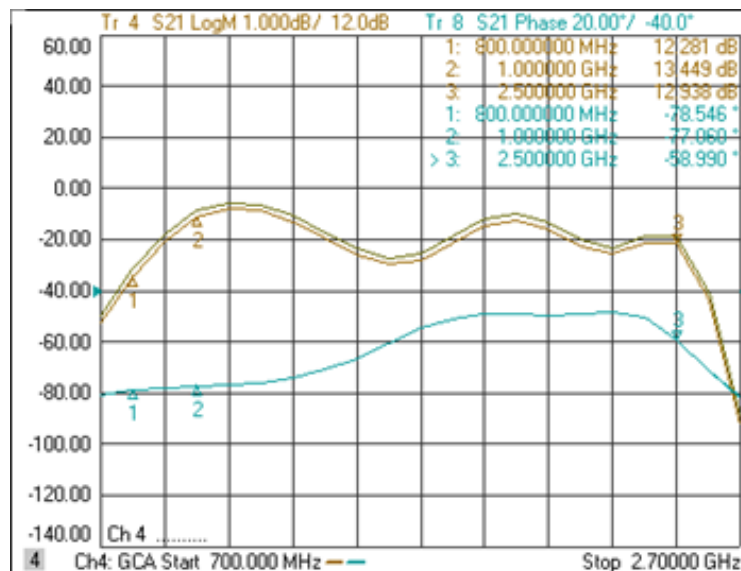

Figure 4-3. Typical Module Response
- If the gain is slightly low (i.e., several dB below typical), try disconnecting the inputs from the A4–A7 Final Module one at a time, then reconnect them. Note the difference in response when disconnecting the module; if any module causes less of a change in gain than the others, check the module and the coaxial cable associated with that module. Typical module response is shown in Figure 4-3.